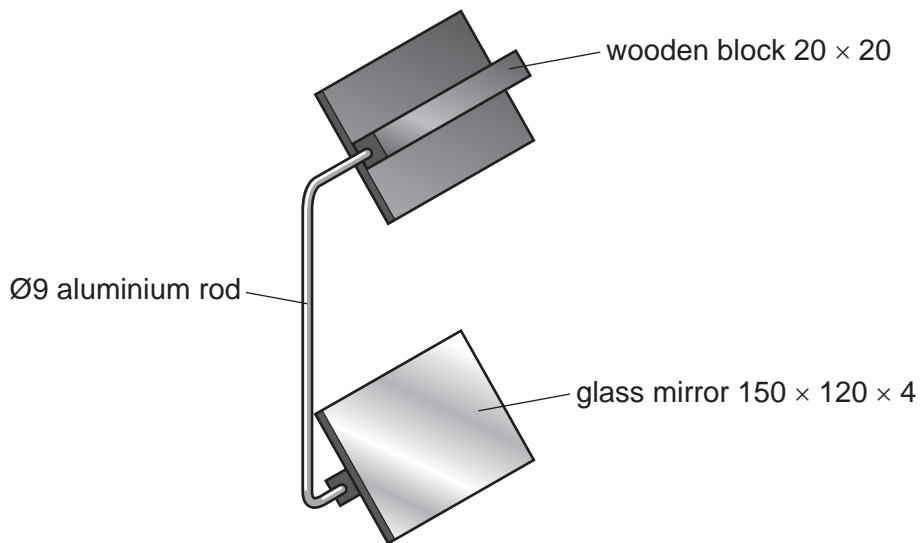

Fig. 11
- (e) Fig. 11 shows a design for an open frame periscope. The glass mirrors are glued to wooden blocks. The aluminium rod is bent to shape and glued into the wooden blocks.